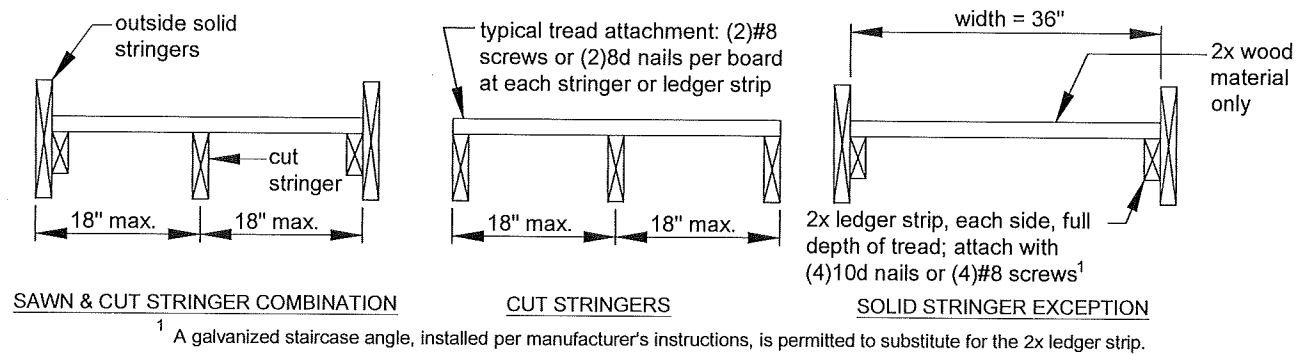

FIGURE 36: STRINGER TREADS
- Tread material shall be equivalent to the decking specified on Page 3 and attached in accordance with FIGURE 36.
- Stairs constructed using the solid stringer exception noted above shall have treads constructed of 2x wood material only; see FIGURE 36.